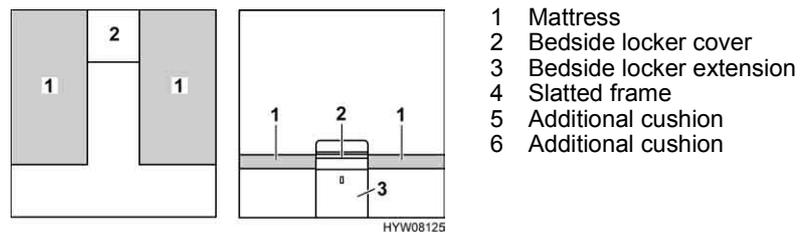

Fig. 90 Prior to conversion
- Remove the bedside locker cover (Fig. 90,2) and put it to one side.